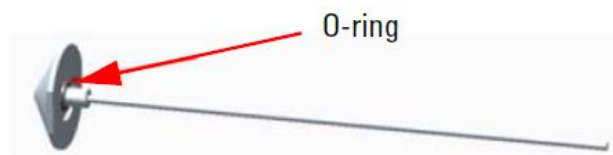

Figure 5-14 Location of O-Ring
1. Remove the O-ring under the capillary base, then sonicate the capillary in a methanol:water (50:50) mixture for 30 minutes (Figure 5-14).